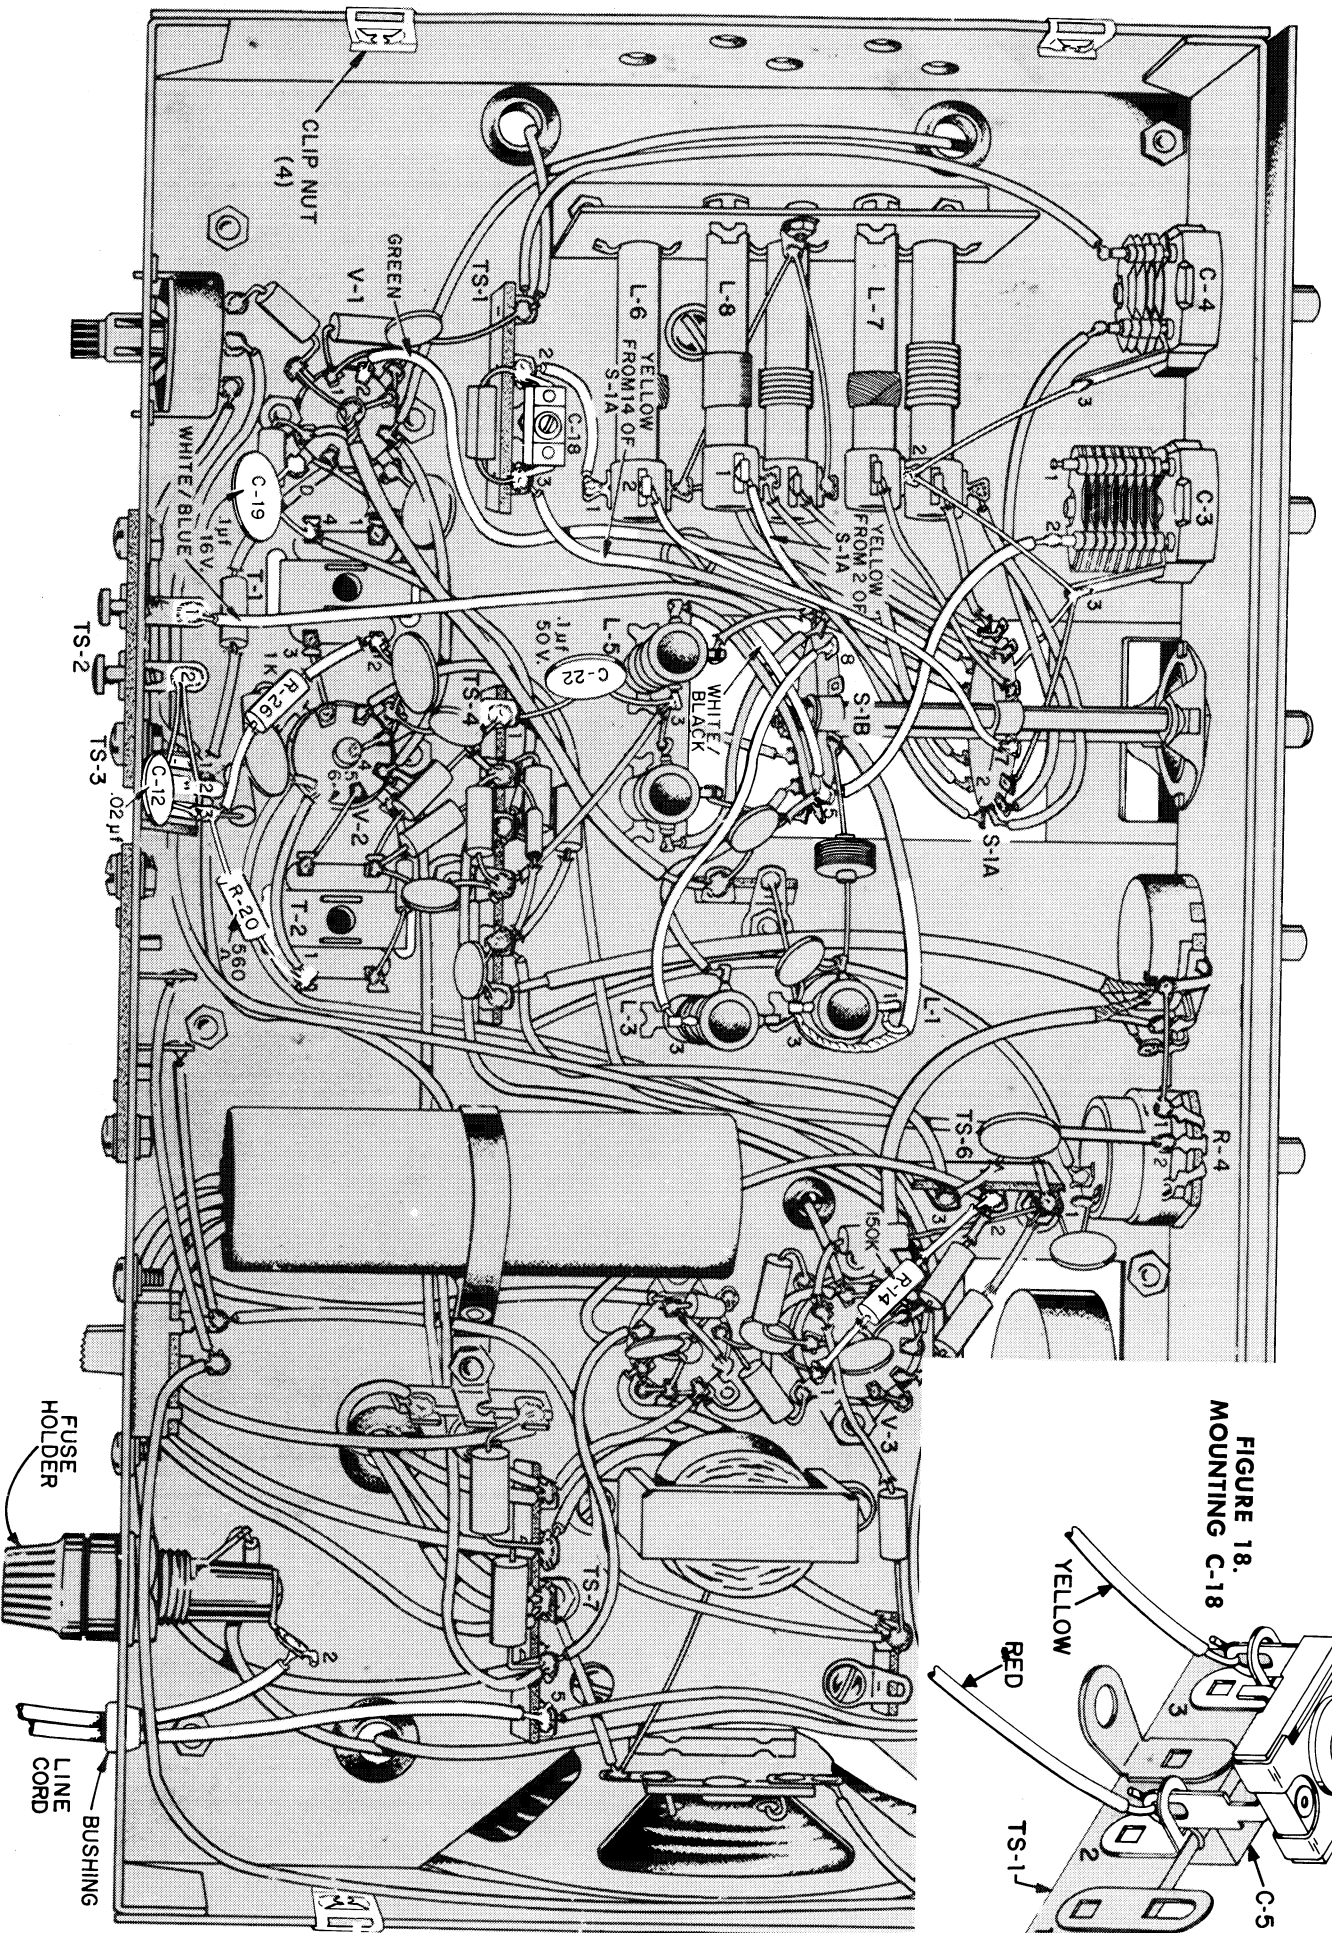

FIGURE 20. FINAL WIRING
SEE FIGURE 20.
- ☐ Four clip nuts. Install four clip nuts on the sides of the chassis as shown in Figure 20. Be sure that the flat side of the clip nut is on the outside of the chassis.